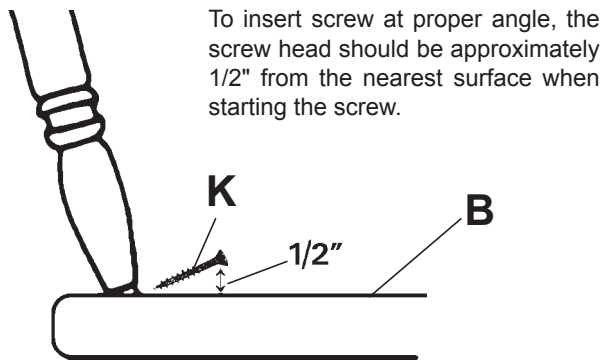

FIG. 8
- 8) For added strength, screw a #8 x 1⁵/₈" Black Screw (K) through each leg chuck into the disc. The screws must be inserted at such an angle so that they do not go through the other side of the leg or top of the disc. See FIGURE 8.